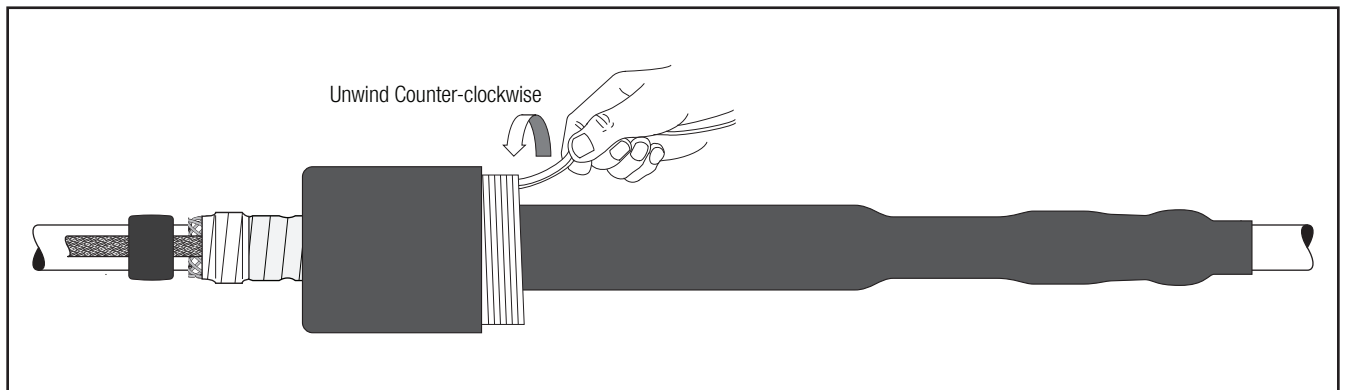

Figure 43
- 8.3 Continue to install the cold shrink tube over the rubber mastic on the other cable by slowly pulling and unwinding the outer core counterclockwise. This portion of the cold shrink tube installs differently than typical cold shrink products in that as the tube shrinks, the end rolls under. The tube may need a slight push to get over the second mastic seal (Figure 43).